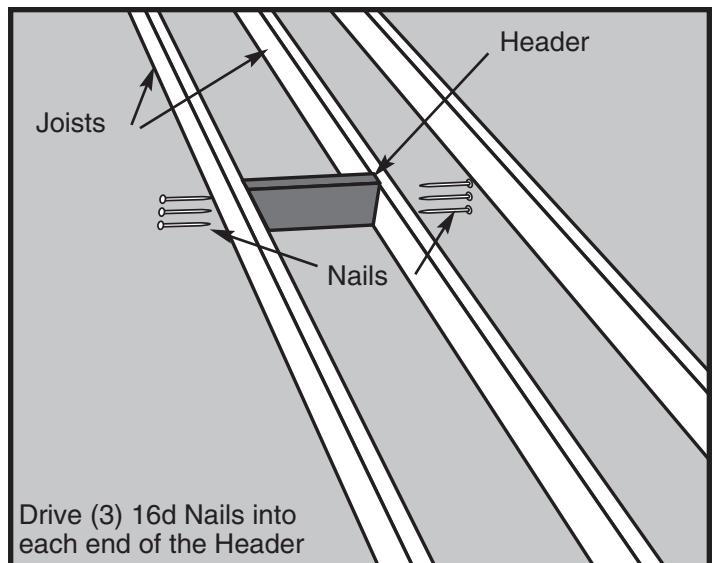

Figure 12
- STEP 3.** Place one of these headers at one end of your chosen location (See Figure 12). The header must fit snugly between the joists. Hammer it into position if necessary; if it is more than 1.59 mm too long, trim it. If it is more than 1.59 mm too short, cut another piece.
- STEP 4.** Square the header to one joist and drive (3) 16d nails through the joist and into the header. Check for squareness and drive (3) 16d nails through the other joist and into the header (See Figure 12). **It is very important that header board is vertically plumb as well as horizontally square to side joists.**